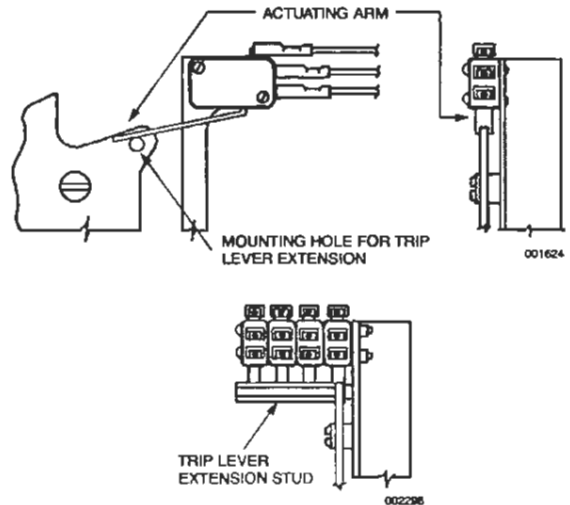

FIGURE 107
5. If more than one switch is being installed, it is necessary to attach the trip lever extension stud to the trip lever. See Figure 107. Using the provided fasteners, securely install the extension stud.
6. Raise switch actuating arm squarely over the cam surface of the trip lever. This will allow the trip lever, when actuated, to force the actuating arm "UP," thus reversing the normal condition of the switch. See Figure 107.